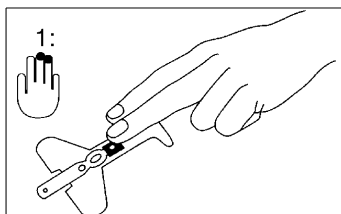
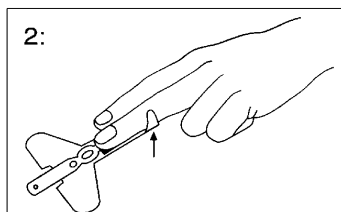

Fig. 24 Sensor placement; detector on the finger tip
Fig. 25 Fixing of the detector
1. Open the pouch and remove the sensor. Holding the sensor with the printed side down, bend the sensor backward and remove the backing. Orient the sensor so the detector can be placed first (Fig. 24). Press the detector onto the fleshy part of the finger near the tip of the finger. Press down the "T" shaped adhesive ends of the sensor onto the finger (Fig. 25).